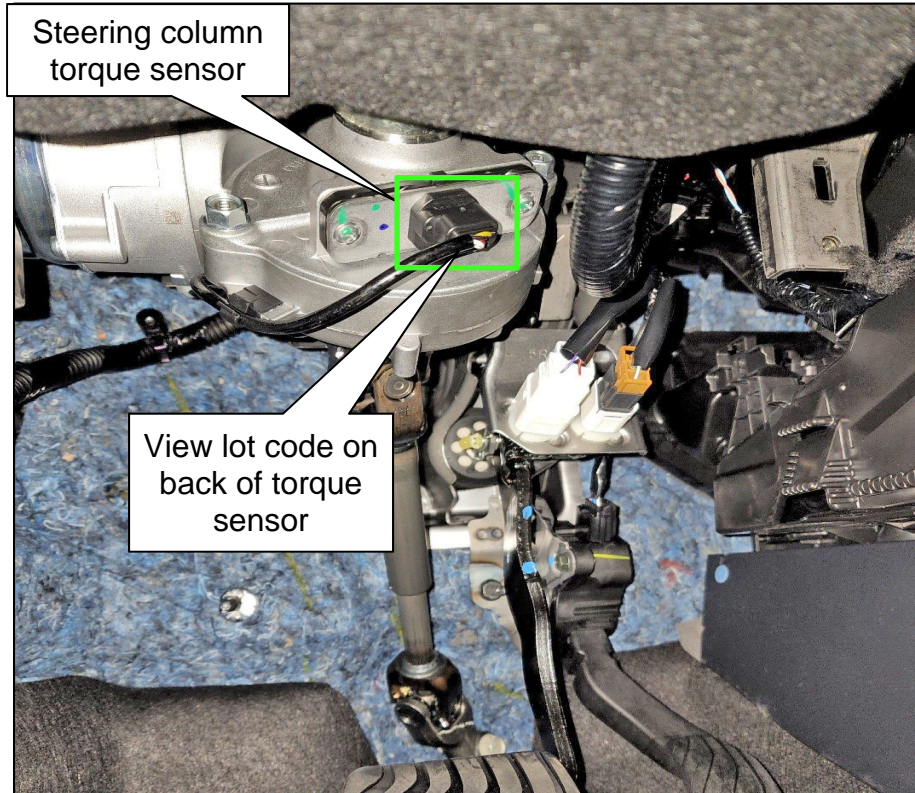

Figure 2
5. Remove the driver (LH) side knee air bag module.
6. Locate the steering column torque sensor (Figure 2).